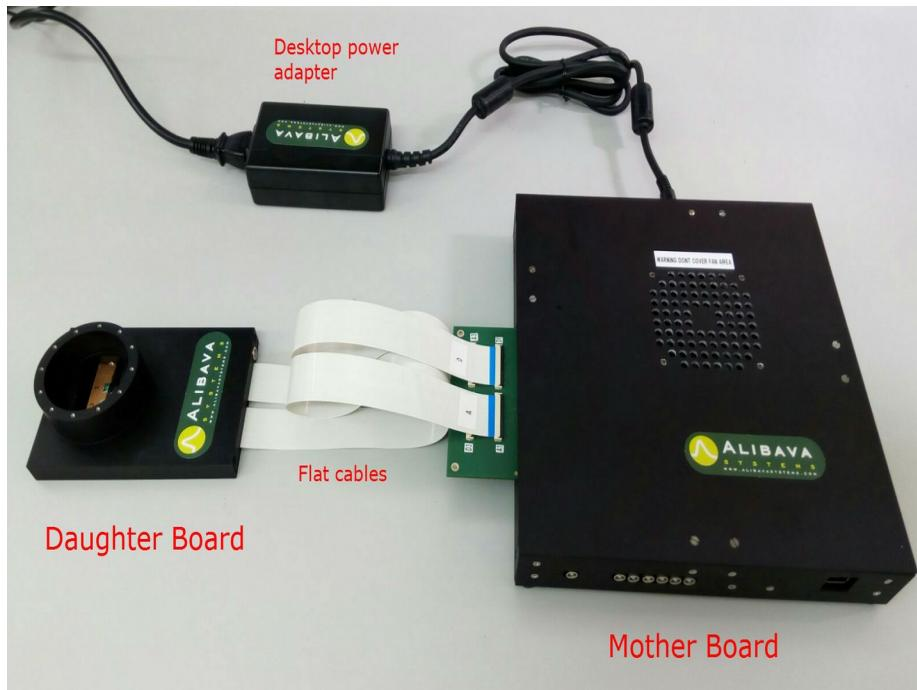

Figure 1: Complete system consisting of a Mother Board and a Daughter Board connected via two flat cables.
The Mother Board has a printed circuit board which is accessible from outside the aluminum box, providing access to the flat connectors also labeled as Analog (A) and Digital (D) as can be seen in Figure 1.